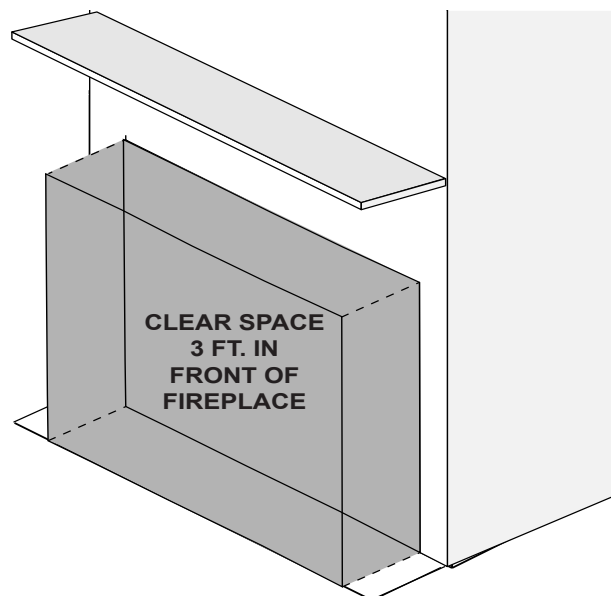

Figure 3.1. Clear Space Requirement
**WARNING! DO NOT place combustible objects in front of the appliance.** High temperatures could start a fire. See Figure 3.1 Avoid placing candles and other heat-sensitive objects on mantel or hearth. Heat could damage these objects.